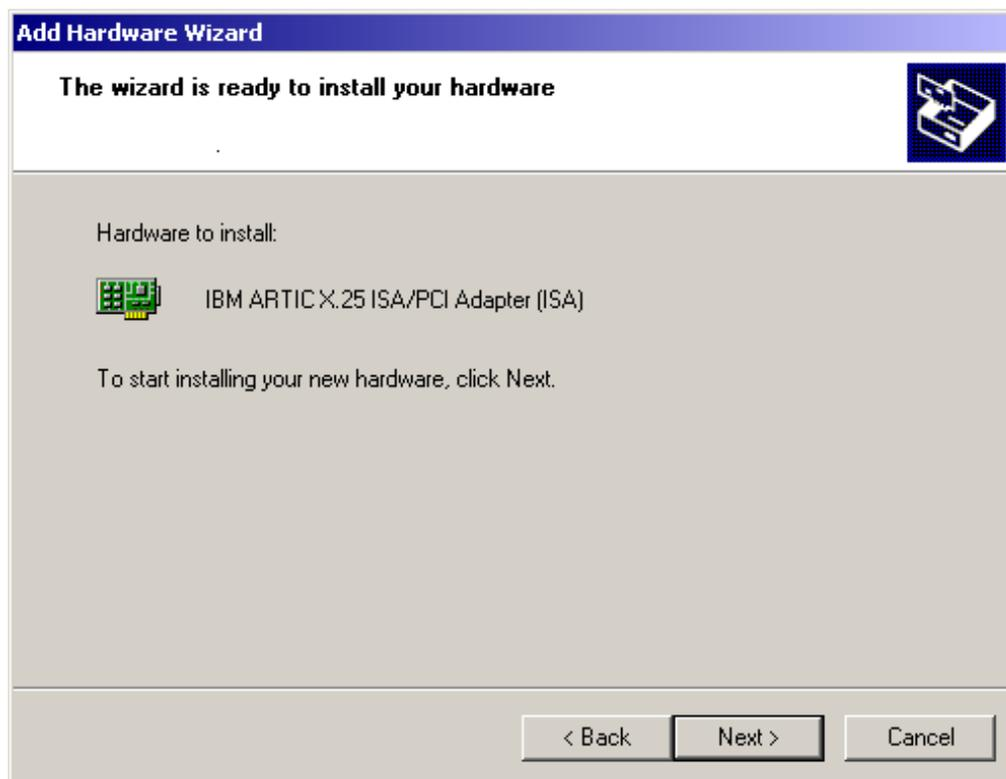

FIGURE 200. Installation ready window
28. Figure 200 confirms your selection.